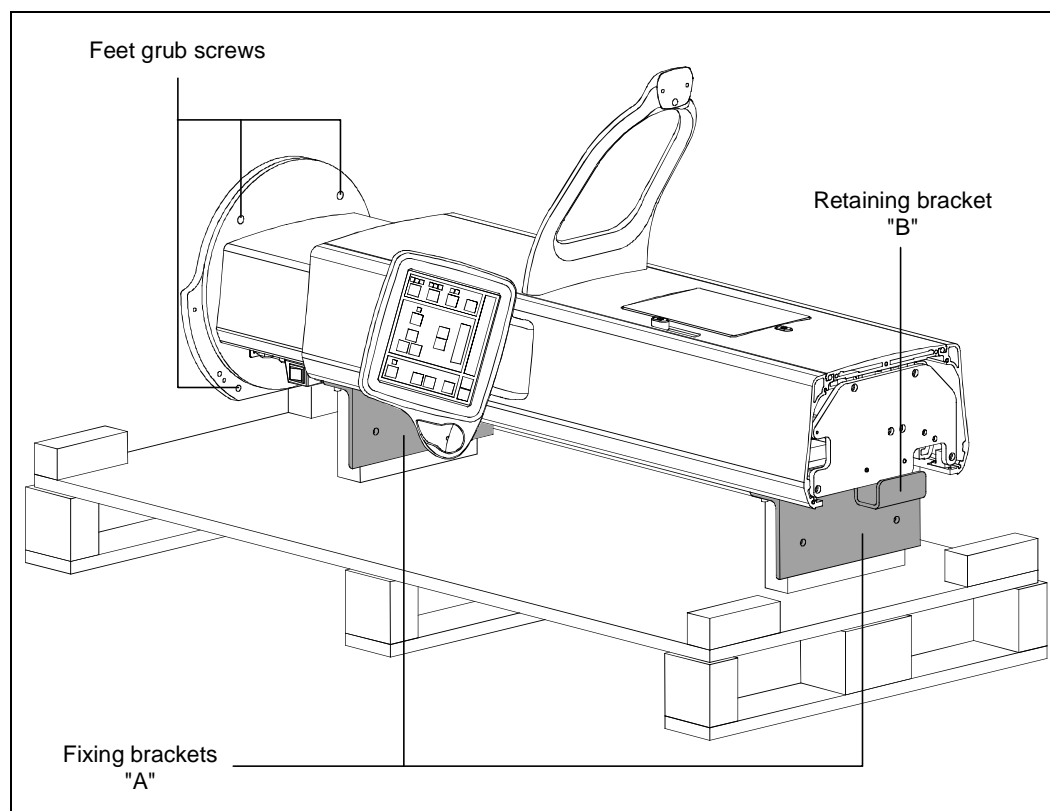

Figure 6-2
The column is delivered in a carton box containing the column itself, the patient support arm and the keyboard. All those parts are fixed to a wooden pallet using two fixing brackets (A); an additional retaining bracket (B) is fixed at the upper part of the column (Figure 6-2).
10. Acting on the feet grub screws (Figure 6-2), adjust them in order to level the feet on the floor. At the end, cover the grub screws with the provided cups.